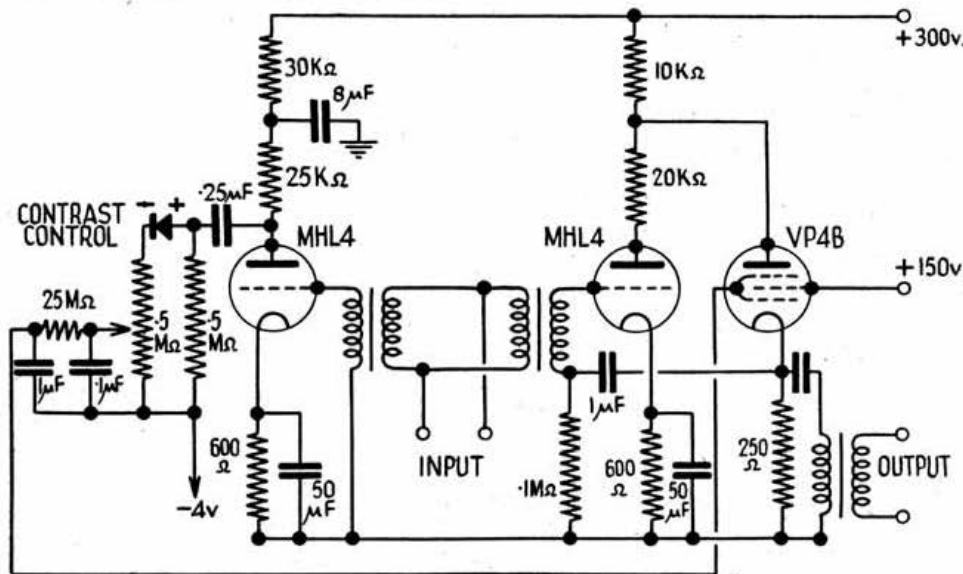

Fig. 11.
The transformer to the right of the input terminals feeds the main amplifier which consists of a triode with negative feedback applied to it of the type illustrated in Fig. 4 (a). Whereas in Fig. 4 (a) the feedback circuit consists of  $R_2$  and  $R_1$  in series, with the feedback voltage taken across  $R_1$ , in Fig. 11 the VP4B pentode is substituted for  $R_1$  and the feedback voltage is taken from the 250-ohm resistance which
Volume expansion, as a means of compensating for the compression which is generally necessary for transmission by radio or for recording, has been accomplished by numerous methods, many of which tend to introduce distortion. Fig. 11 shows a circuit in which variable negative feedback is automatically controlled in accordance with the signal strength, so that the feedback is reduced as the signal increases, thus increasing the gain with increasing signal. The method, which is due to B. J. Stevens of the South African Broadcasting Corporation, (14) is claimed to introduce less distortion than the more orthodox type of circuit which uses variable-mu valves to control the gain of the amplifier. Referring to the figure, the input terminals are seen to be connected to the primaries of two transformers. That on the left feeds the grid circuit of a control amplifier of conventional